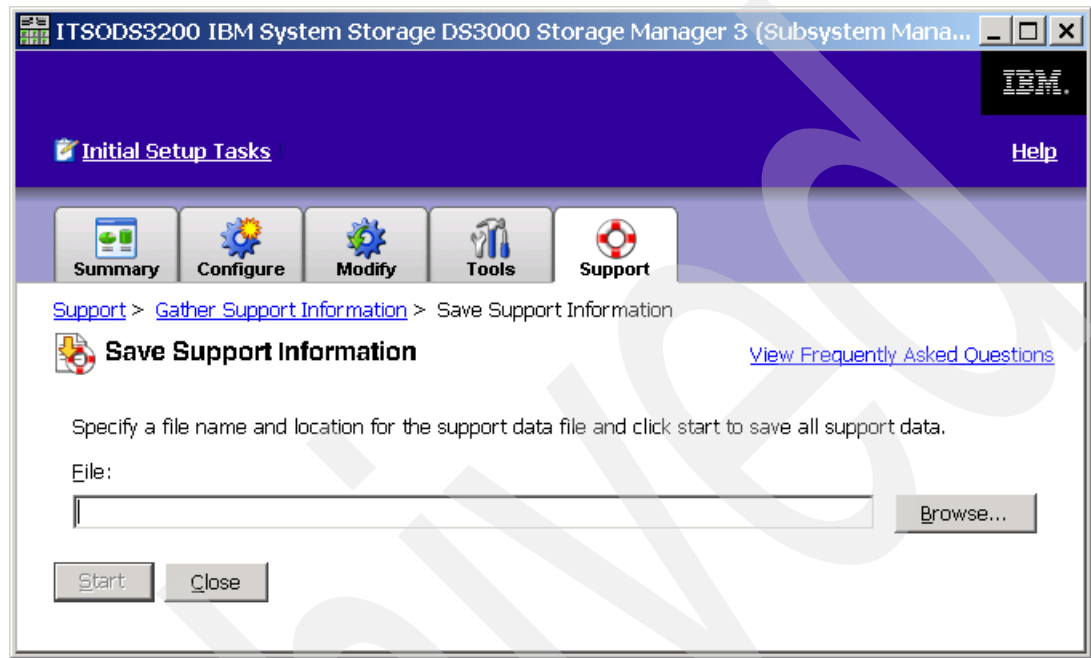

Figure 14-3 Save Support Information
1. Select **Save Support Information** in the main window (Figure 14-2 on page 301). A new window appears (Figure 14-3), where you specify where to save support data.